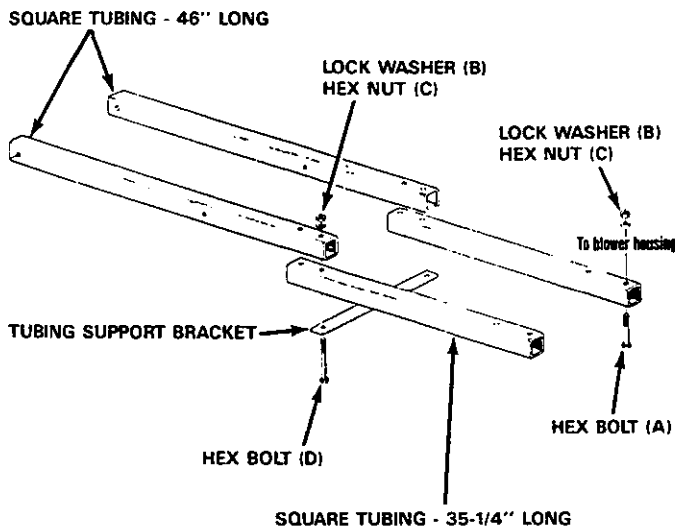

FIGURE 6
10. Place the 35-1/4" long square tubing in position against the snow thrower housing, using the outside holes in housing. Secure with hex bolts (A), lock washers (B) and hex nuts (C) as shown in figure 6.
11. Secure square tubing 46" long to square tubing 35-1/4" long and tubing support bracket with hex bolts (D), lock washers (B) and hex nuts (C). Tighten finger tight only.
Tubing support bracket assembles to the second hole from the end of the square tubing 35-1/4" long. See figure 6.